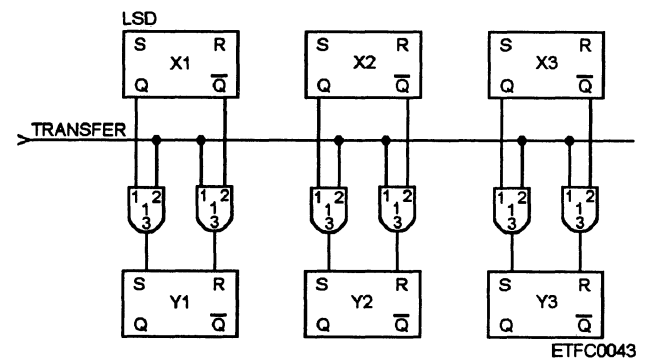

Figure 4-26.—Example of a double-line parallel transfer.
• Double-line (dual) parallel transfer (also called forced method)—1's **and** 0's are moved. This transfer is faster than the single-line parallel transfer; however it requires more logic gates. With this method the receiving register is forced to assume the state of corresponding flip-flops of the sending register. This eliminates the need to clear the receiving register's contents before the transfer. Refer to figure 4-26.